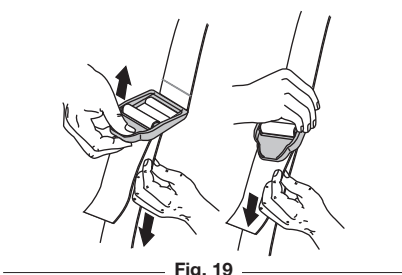

Fig. 19
4. Adjust length to fit the operator's size. Pull tab to lengthen, pull strap to shorten (Fig 19).